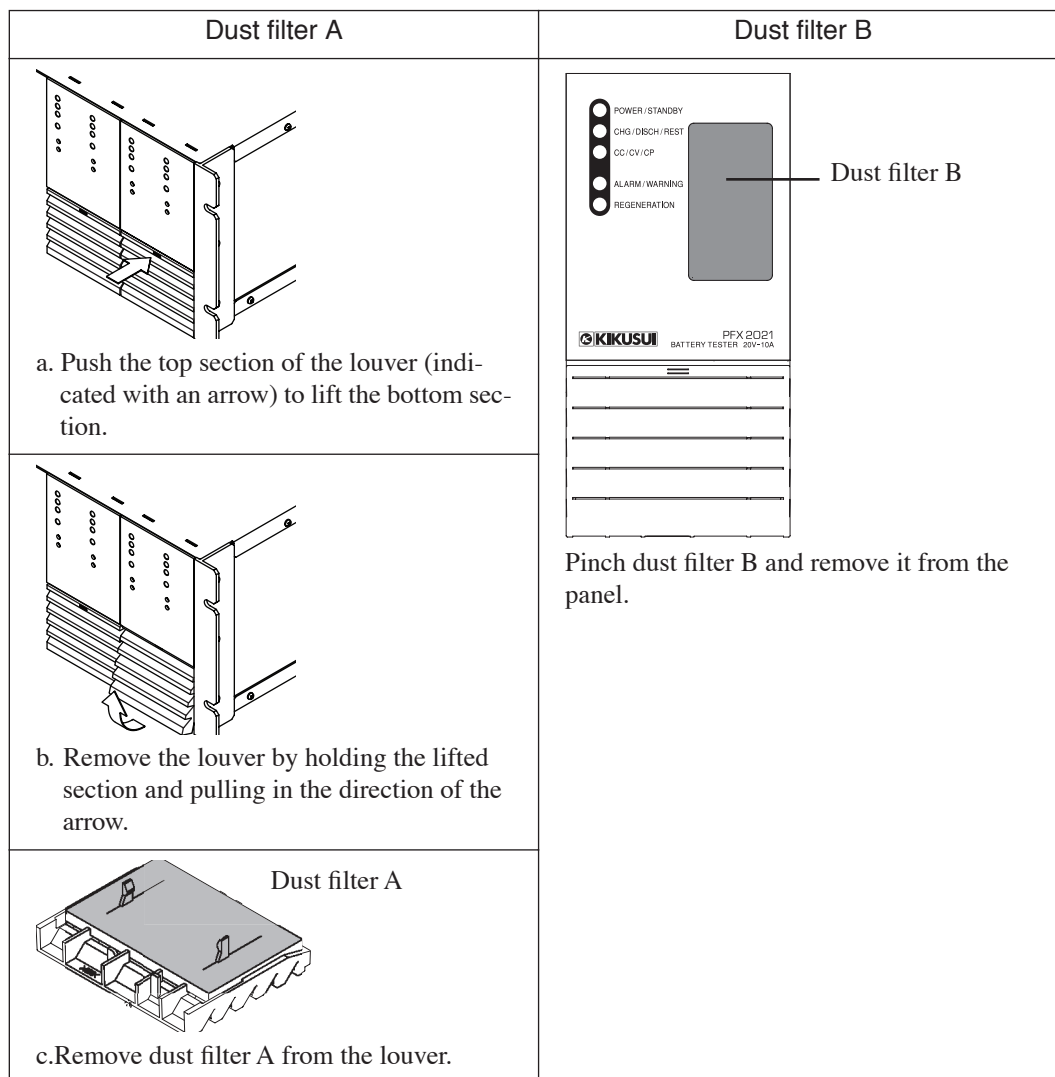

Fig. 4-2 Removal of the Dust Filter
1. Remove the dust filter by referring to Fig. 4-2.